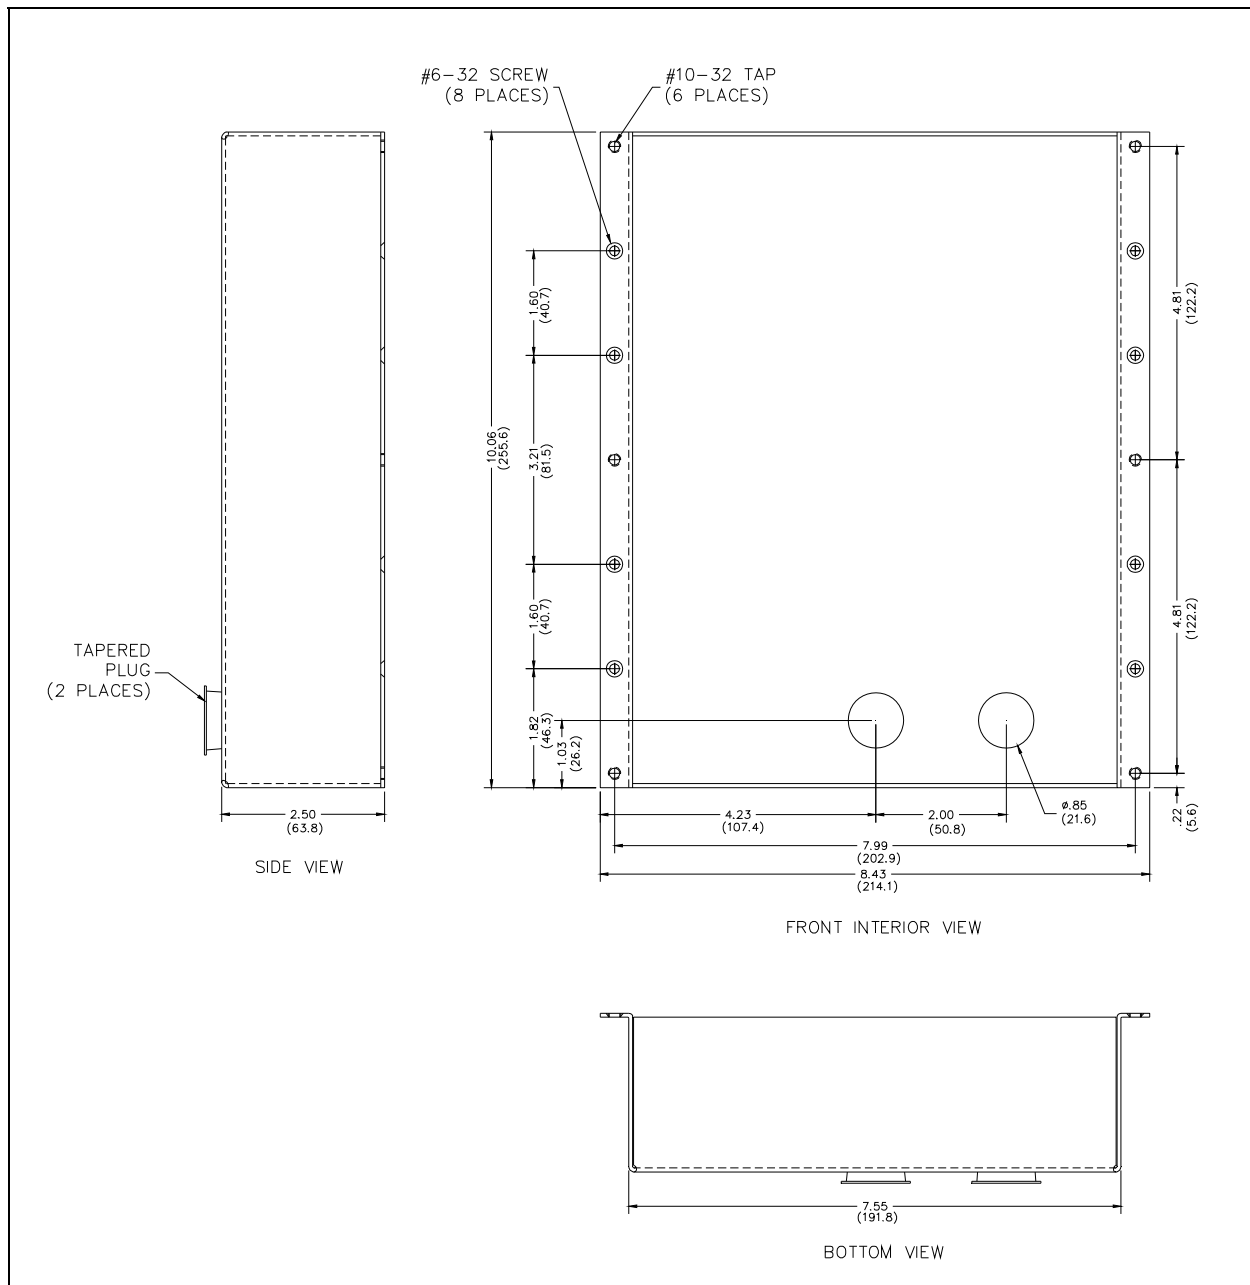

Figure 11. Model 277-005 Mounting Details
1. When mounting in a GAI-Tronics Model 234 Series Stanchion or for flush-mount installations, the supplied back box must be used to mount the Model 277-005 Telephone. Mount the back box to the structure using the appropriate hardware. Refer to Figure 11 cutout dimensions.